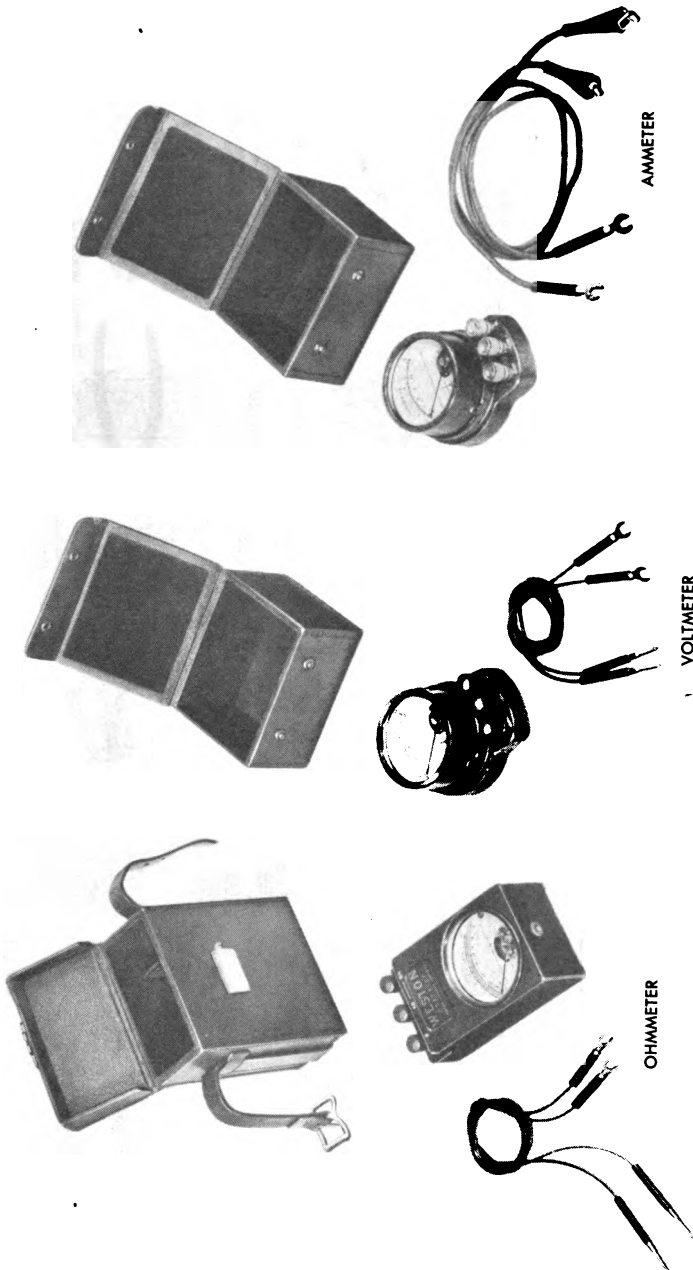

Figure 64 — Instruments Supplied in Tool Chest (Directors M5 and M6)
e. The tool chest (fig. 63) carries the tools and instruments shown in figures 64 and 65, also certain spare screws, pins, and terminals. One chest is issued with each four directors (SNL F-209).